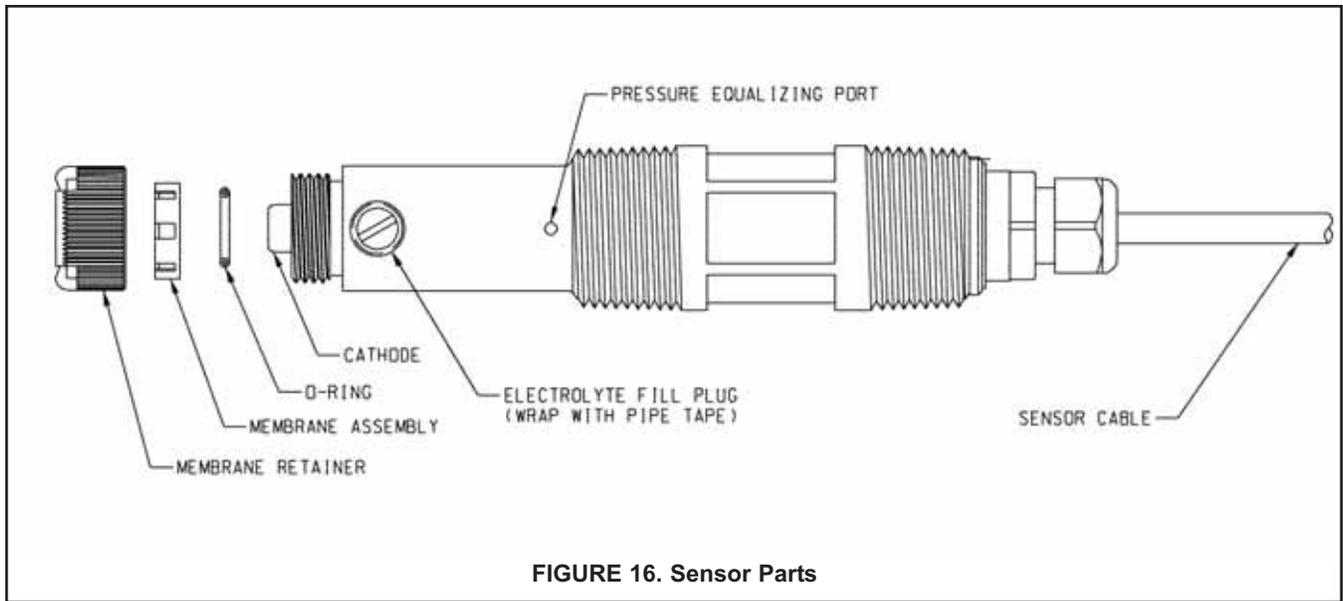

FIGURE 16. Sensor Parts
- Unscrew the membrane retainer and remove the membrane assembly and O-ring. See Figure 16.
- Insert a small **blunt** probe, like a toothpick with the end cut off, through the pressure equalizing port. See Figure 16.